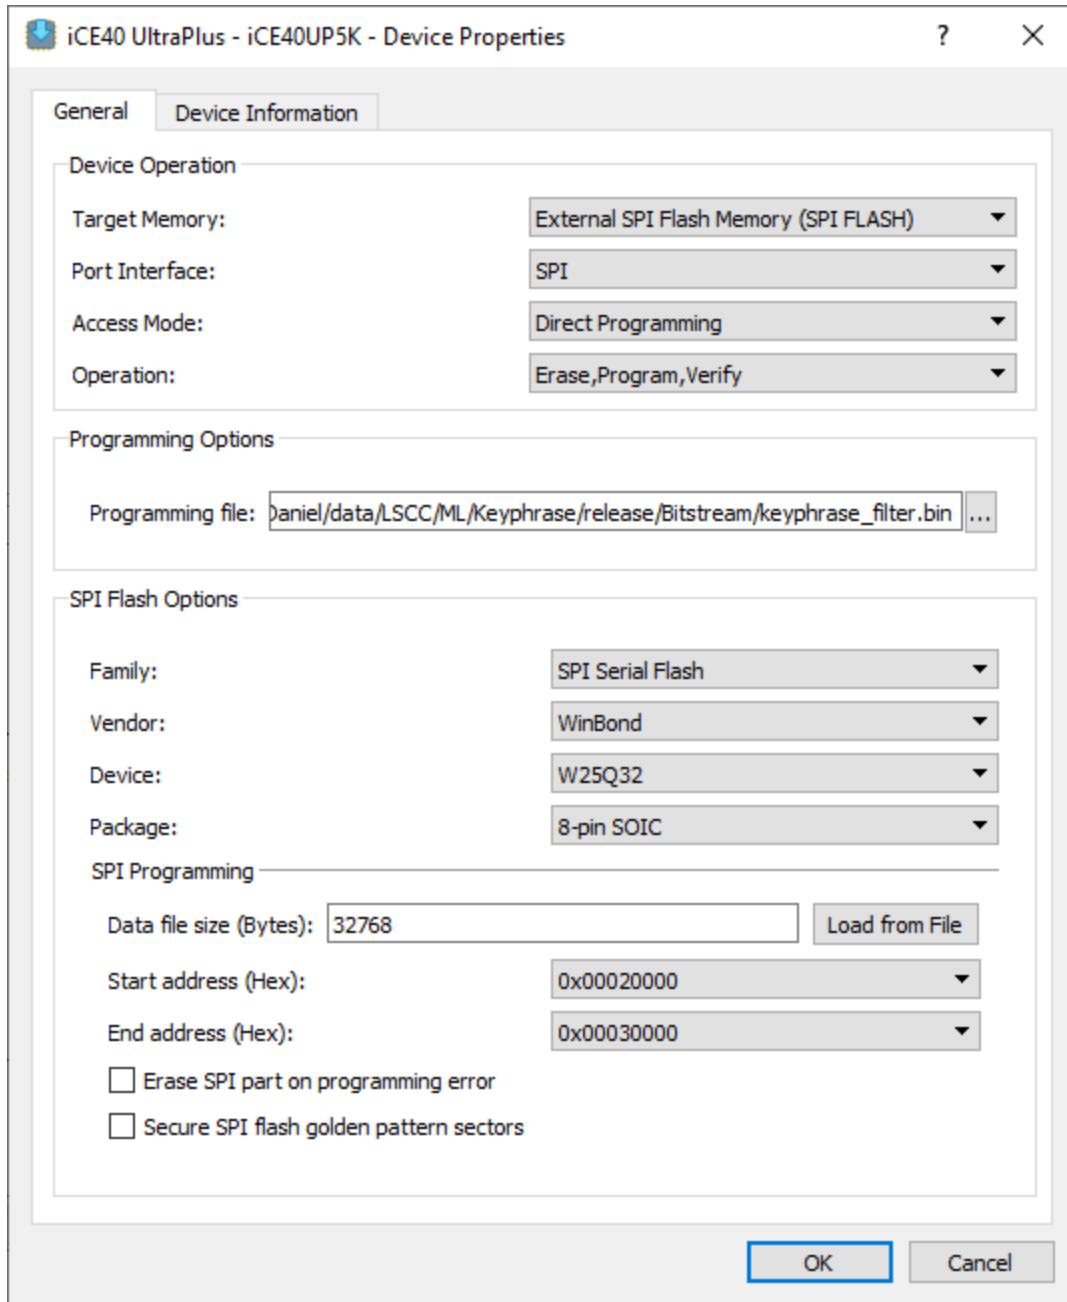

Figure 4.6. Filter-Firmware Bin File Setting
11. To program the filter binary firmware for generating spectrogram, select the options below as shown in Figure 4.6.
12. To program firmware bin that contains model architecture, select the options below as shown in Figure 4.6.